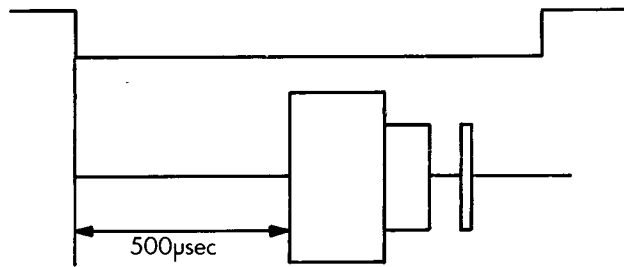

Fig. 5-1 Index burst waveform
When the timing is not within this range, proceed with the following adjustment. (Refer to Fig. 5-1).
- vi) Adjust VR201 so Index frequency is $200 \pm 2\text{ms}$ (See Fig. 5-1).